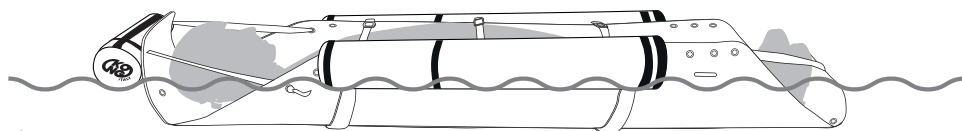

Fig.19
- **River transportation (fig. 19)**